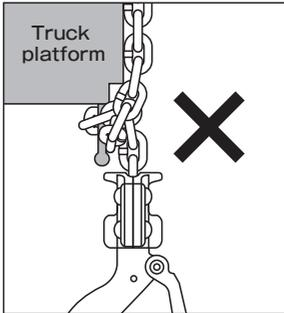

Figure 19
- (40) Do not suspend the load chain directly from rope hook fixtures. Do not use the load chain as a suspension device. (Figure 19)
- (41) Do not pull diagonally. (Move the chain block directly above the load before lifting.)
- (42) Move the chain block directly above the load before lifting it.